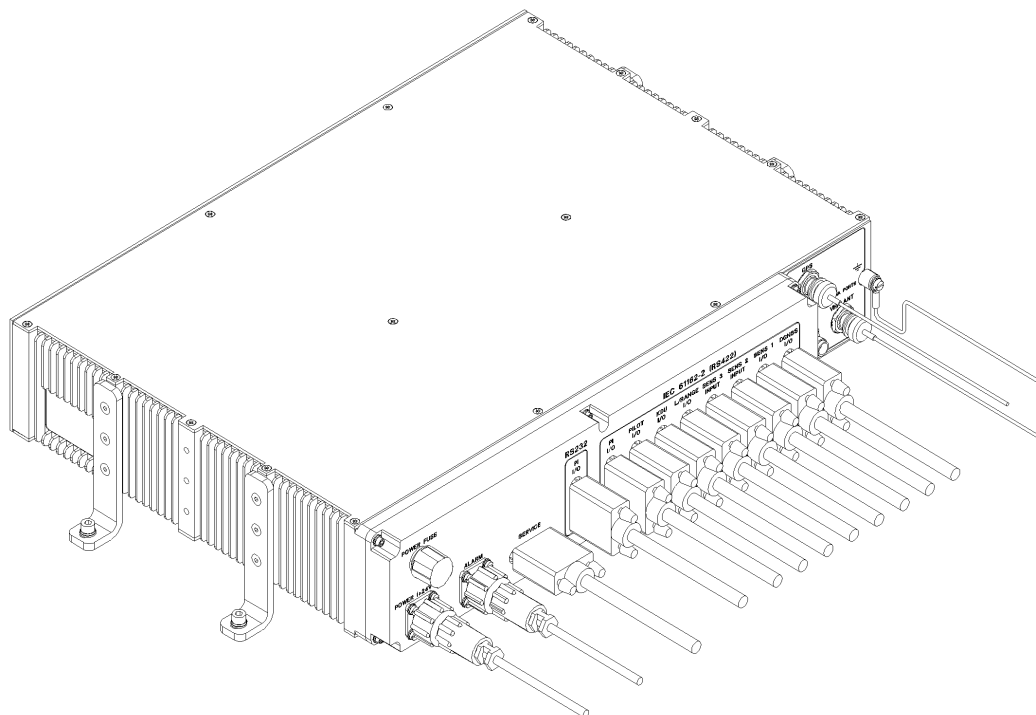

Figure 2: Mounting the AIS Unit
- Attach the bracket assemblies to the unit, using the screws supplied, see Figure 2: Mounting the AIS Unit.